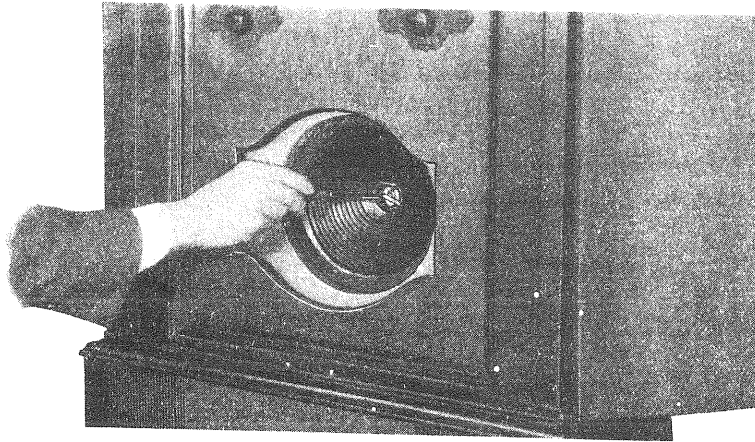

Figure 17—Adjusting the position of the cone
- (c) Insert three cardboard strips about the thickness of a visiting card, $1\frac{1}{2}$ " x $\frac{1}{4}$ " in size, through the center web of the cone into the space between the pole piece and the cone (Figure 17). This will give the cone coil the same clearance on all sides of the pole piece.